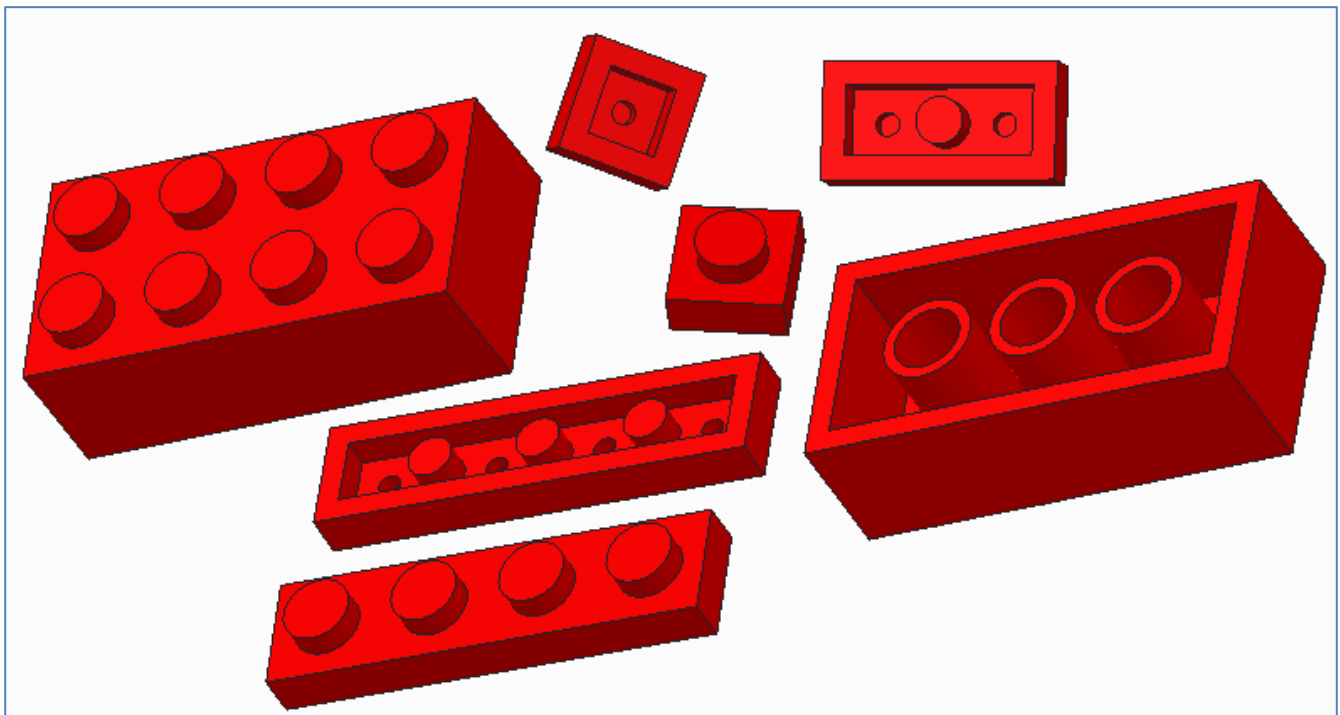

Figure 21: Different kinds of Lego bricks.
2. Create a pattern of taps (Figure 6) which are used instead of tubes if the width or length of the brick is 1. Then use the techniques you have learned to manage their number and suppress them when necessary (Figure 21). To enable value 1 for both *size_h* and *size_h*, individual patterns are needed for both directions (to be honest, not needed, but it is much easier to do this way...).